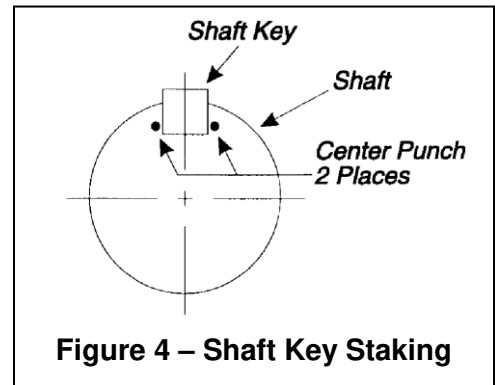

Figure 4 – Shaft Key Staking
4. Secure key by staking with a center-punch on the end of the shaft. Stake on both sides of the shaft as shown in Figure 4.